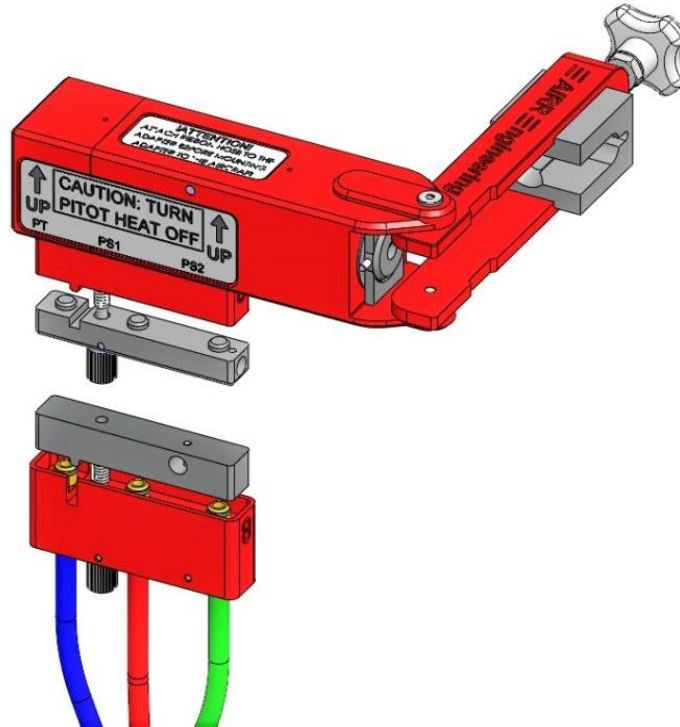

Figure 1: Ridge on Pitot adapter connector and notch on hose connector aligned
- A. Remove the dust cap from adapter 1 connector port and one end of Hose Set 1. Align the ridge of the adapter port with the notch on the hose connector (Figure 1).